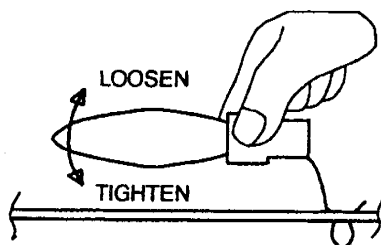

FIGURE 12
3. **Hold the socket while unscrewing the bulb.(FIGURE 12)**
2. Hold the socket while unscrewing the bulb.(FIGURE 12)